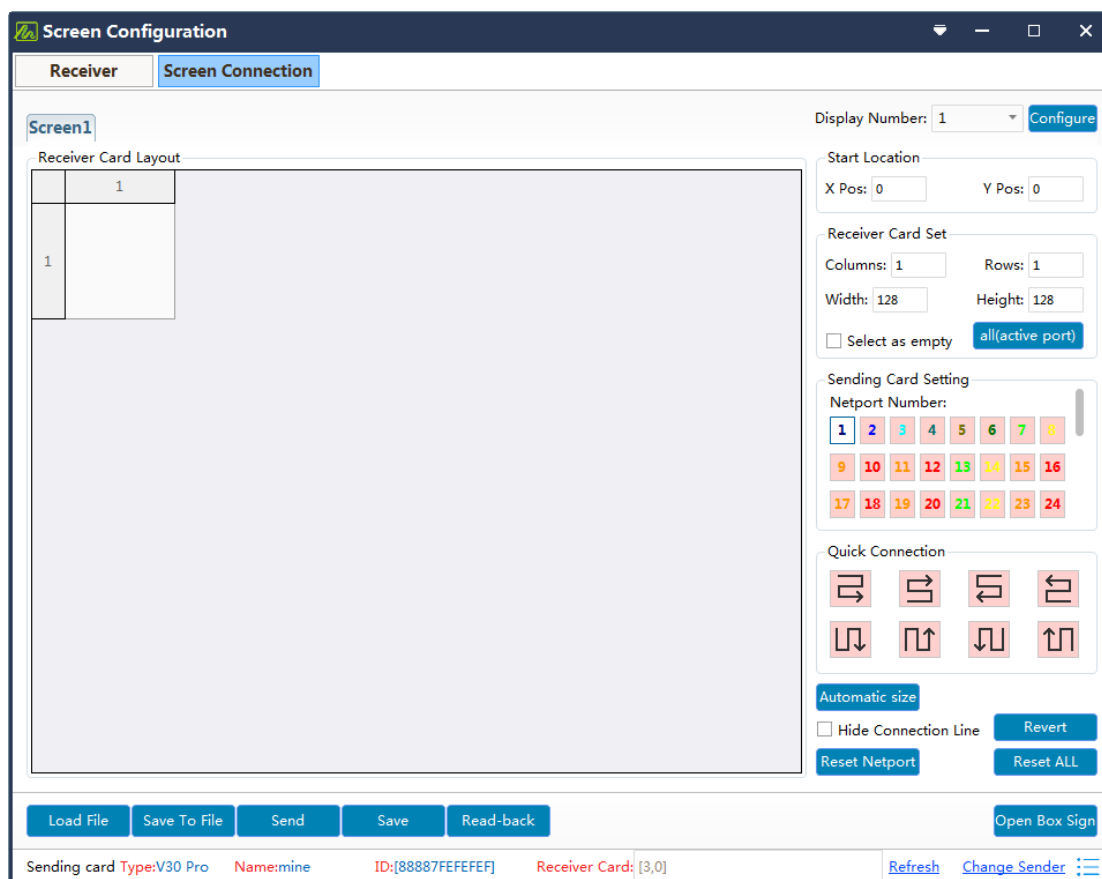

Figure 4-2-11 Screen Connection Setting
(1) After the user configures the receiver (receiving card)parameters, click the "Screen Connection" button in the menu bar of the receiver configuration interface to get to the screen connection interface, as shown in Figure 4-2-11.